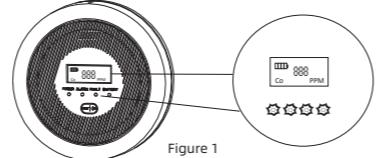

Figure 1
1) Preheating: once power on, the buzzer sounds 'Di-', Power, Alarm, Fault and Battery indicators blink once. LCD screen turns on displaying '888PPM' and battery power level (refer to Figure 1). Then 2-min preheating starts with LCD screen displaying countdown from 120 to 0, and Green, Red, Yellow and Blue indicators blinking simultaneously. Detector enters monitoring status after preheating.